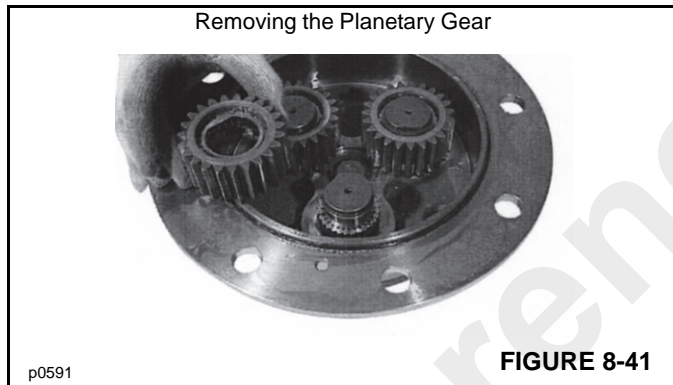

**FIGURE 8-39**
4. Remove the planetary carrier from the wheel hub. Place the planetary carrier on clean work bench and check for wear. Remove the O-ring (Figure 8-39) and check its condition.